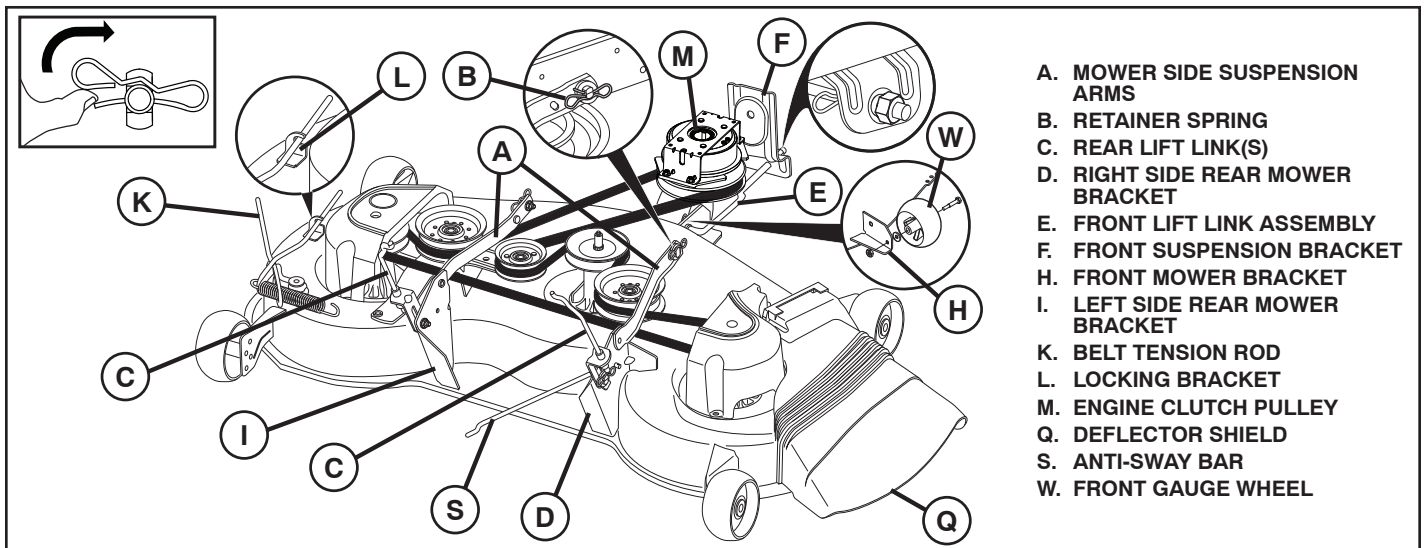

Fig. 21
## TO REMOVE MOWER (See Fig. 21)
## TO INSTALL MOWER (See Figs. 21 - 33)
### 1. SET PARKING BRAKE LEVER AND LOWER ATTACHMENT LIFT LEVER (See Fig. 21 & 22)
## 9 INSTALL BELT ON ENGINE CLUTCH PULLEY (M) (See Fig. 21 & 33)
- Disengage belt tension rod (K) from locking bracket (L).
- Install belt onto engine clutch pulley (M).